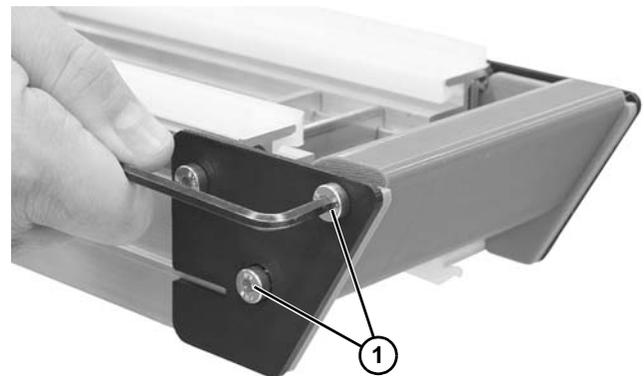

Figure 84
- On both sides of conveyor, remove two fastening screws (**Figure 84, item 1**).